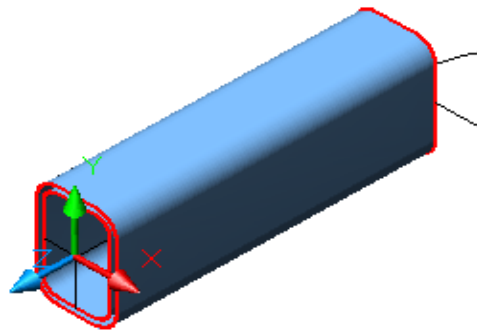

Figure Step 13
Step 13 Using the TABSURF command, create the surface for the outside of the tube. (Figure Step 13)